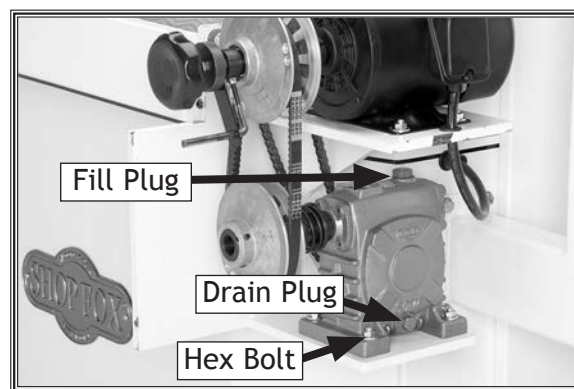

Figure 34. Lubricating gear box.
2. Remove the feed motor cover, loosen the four hex bolts (**Figure 34**) that secure the gear box to the motor bracket, and remove the V-belt.
3. With the oil and gearbox warm, slide the gearbox out, remove the fill plug (**Figure 34**), remove the drain plug, drain the oil, and reinstall the drain plug.